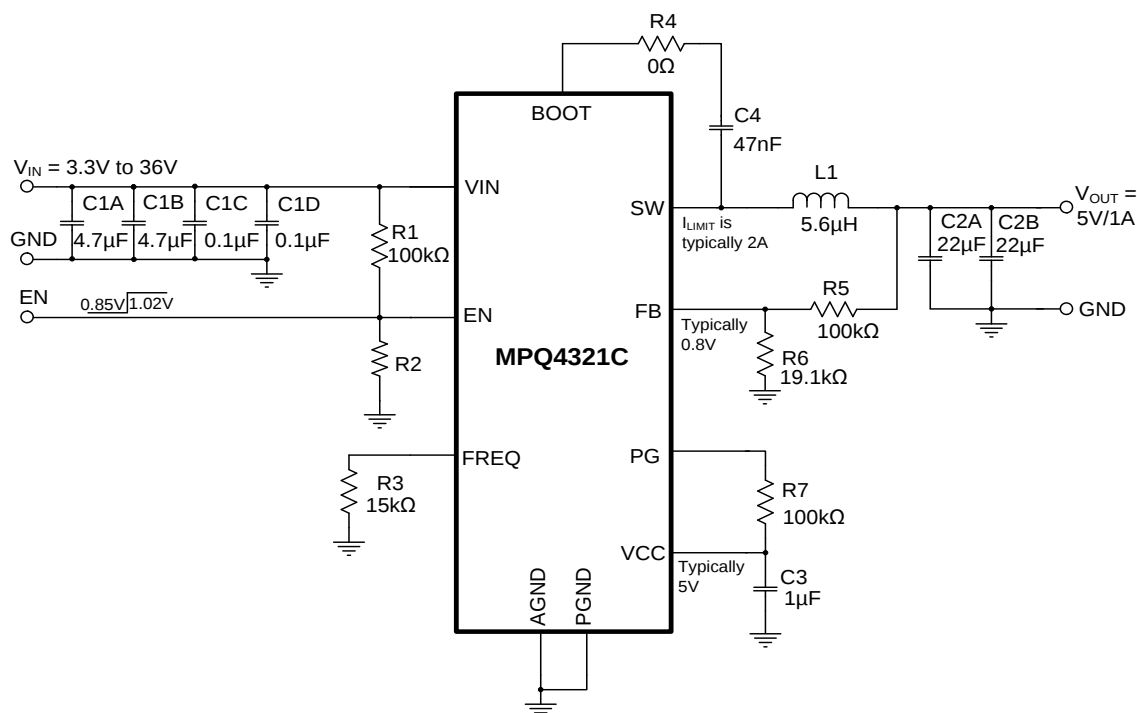

Figure 10: Typical Application Circuit with Bootstrap Resistor (R4) ( $V_{OUT} = 5V$ ,  $f_{sw} = 2.2MHz$ )
16) The recommended PCB layout is based on Figure 10 on page 35.